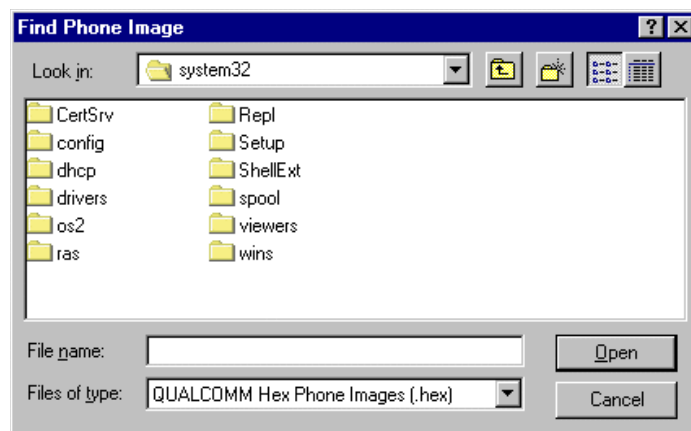

Figure 5-3 Find Phone Image dialog
- Click BROWSE to search for a file. You will use the dialog shown in Figure 5-3 to locate the file to download.